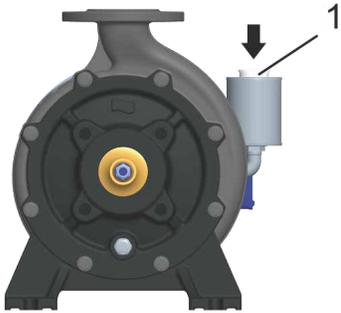

Fig. 115 Refilling the oil (example: herborner.F-N)
24. Refill the oil in the opening of the Seal Guard system compensation tank (Fig. 115/1) until it is half-full.